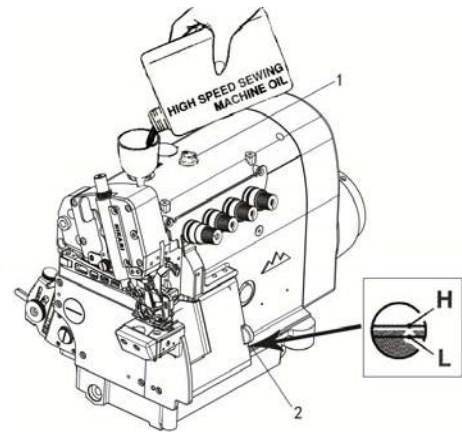

Fig. 6
2. To fill the machine with oil (Fig.6)
3. Required amount of oil (Fig.6)